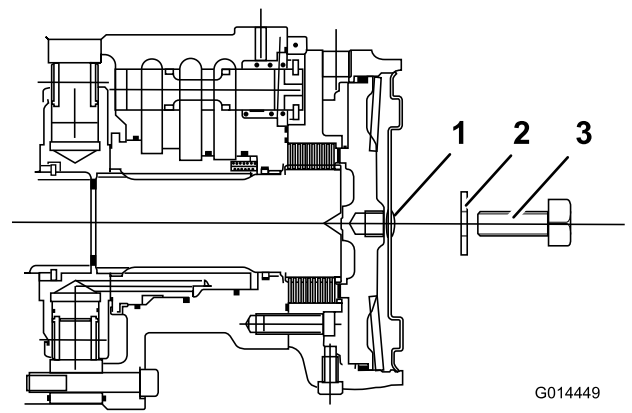

Figure 45
5. Tighten the set screw into the threaded hole in the brake piston until the brake is released (Figure 45).
6. Identify the left, front disc-brake assembly and repeat the previous procedure (Figure 45).